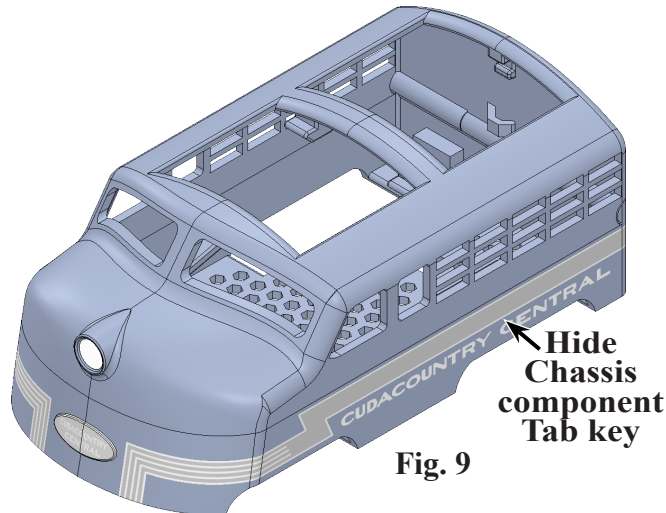

Fig. 9
Step 1. **Hide Chassis**  component, **Fig. 9**. To hide, move cursor over the component in graphics area and press **Tab** key. To show **Shift - Tab**.